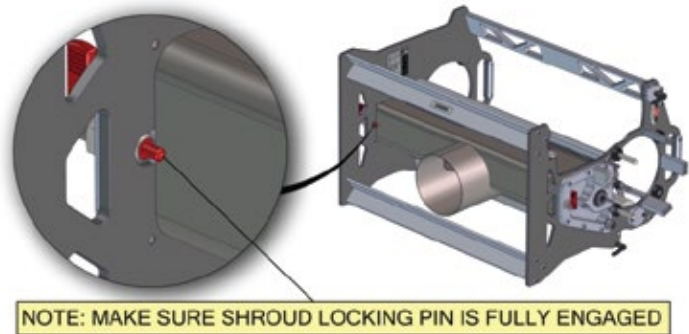

Figure 34: Securing the tumbler
- Insert shroud, twist release levers to lock in place (Figure 34)
Replace the shroud, and lock it back in place by twisting the shroud locking pins again, making sure that the pins have fully engaged in holding the shroud in place (Figure 34); if not, you will need to push on the shroud to press it in slightly before you push the locking pins in to hold it in place.